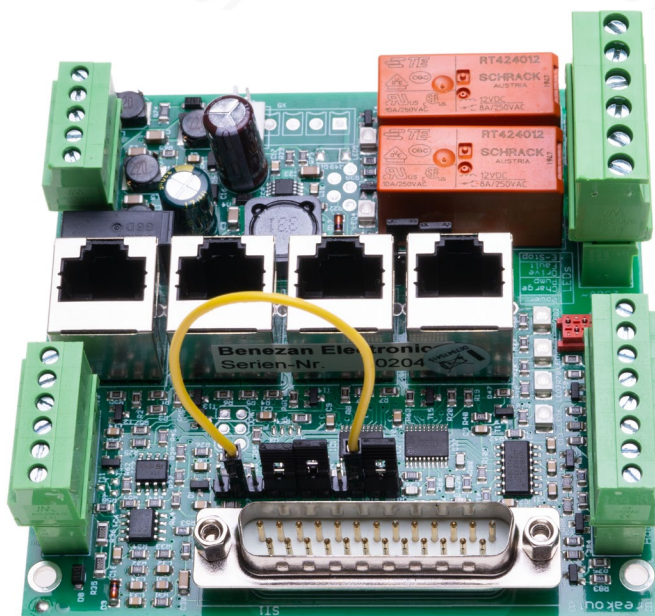

Fig. 11: Jumper setting for use with EdingCNC
- The jumpers of the Interface Advanced Pro must be set as described on the next page in Figure 11.
- 2-9, 4-5, 6-7, 10-11 (see figure 11)